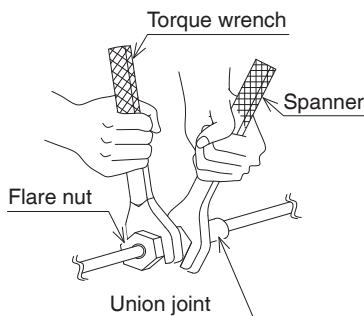

Fig. 18
- When connecting the piping to the air conditioner, make sure to use a spanner and a torque wrench as shown in **Fig. 18**.